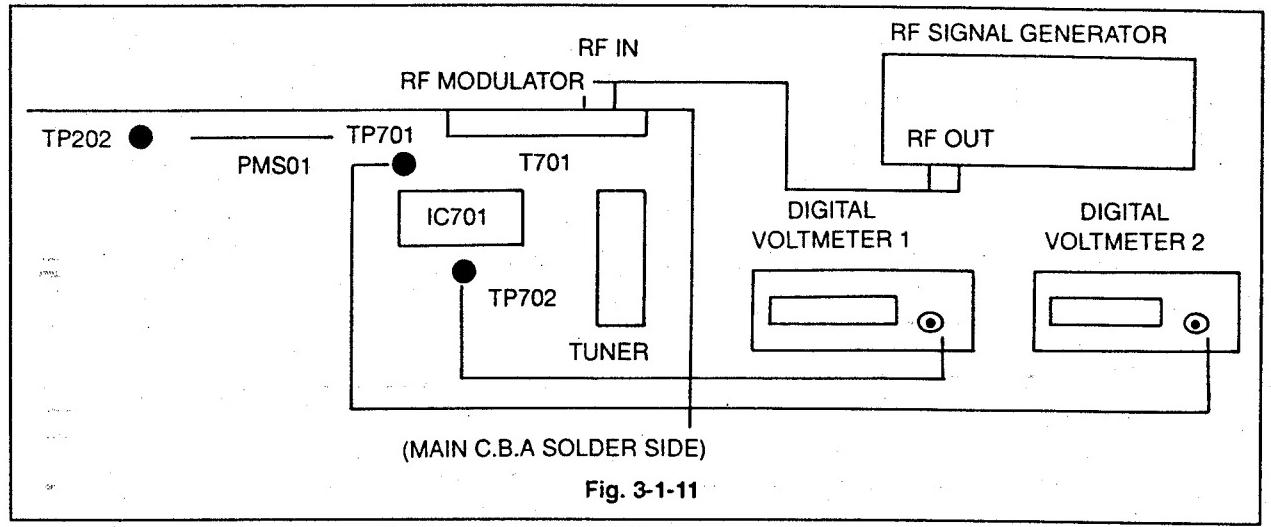

Fig. 3-1-11
- Connect as shown in Fig. 3-1-11.